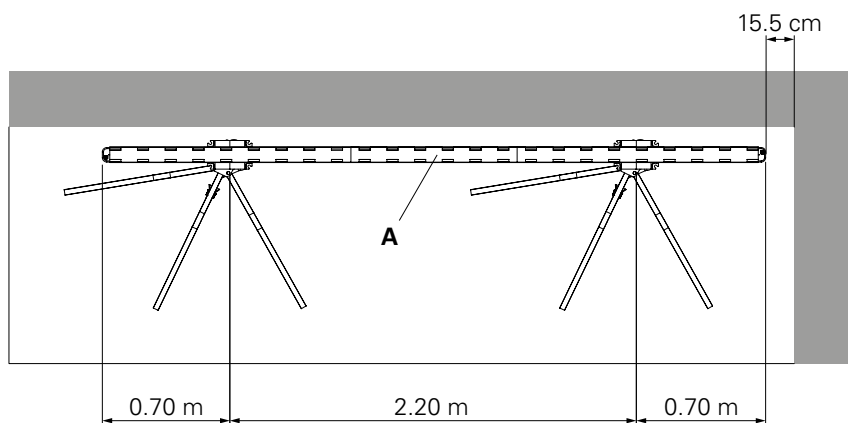

Fig. D6.09
- 70 cm for VT 20 L = 3.60 m (**A**) (Fig. D6.09)